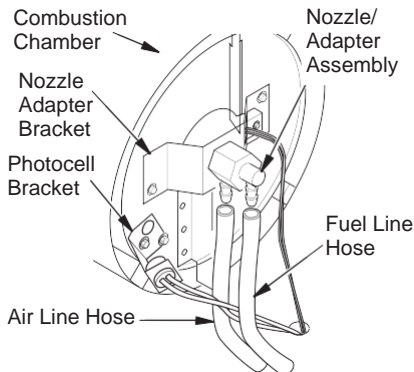
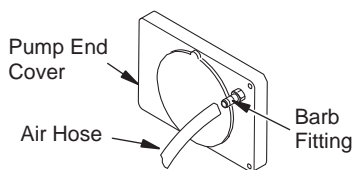

Figure 17 - Removing Air and Fuel Line Hoses (125T and 170T Models Only)
Figure 22 - Air Hose to Barb Fitting
14. Replace photocell in photocell bracket. Route wires as shown in Figure 17.
3. Remove fuel and air line hoses from nozzle assembly (see Figure 17).
4. Inspect fuel and air line hoses for cracks and/or holes. If fuel line hose is damaged, disconnect from nozzle adapter (see Figure 17, page 12 or Figure 20 according to model) and from fuel filter (see *Fuel Filter*, page 11). If air line hose is damaged, disconnect from nozzle adapter (see Figure 17, page 12 or Figure 20 according to model) and from barb fitting on pump end cover (see Figure 22, page 14).
5. Install new air and/or fuel line. Attach one end of air line hose to barb fitting on pump end cover (see Figure 22, page 14) and the other end to nozzle adapter (see Figure 17, page 12 or Figure 20 according to model). Attach one end of fuel line hose to fuel filter (see *Fuel Filter*, page 11) and the other end to nozzle adapter (see Figure 17, page 12 or Figure 20 according to model).
Note: Route hoses as shown in Figure 17, page 12 or Figure 20 according to model. Hoses are not to touch photocell bracket.